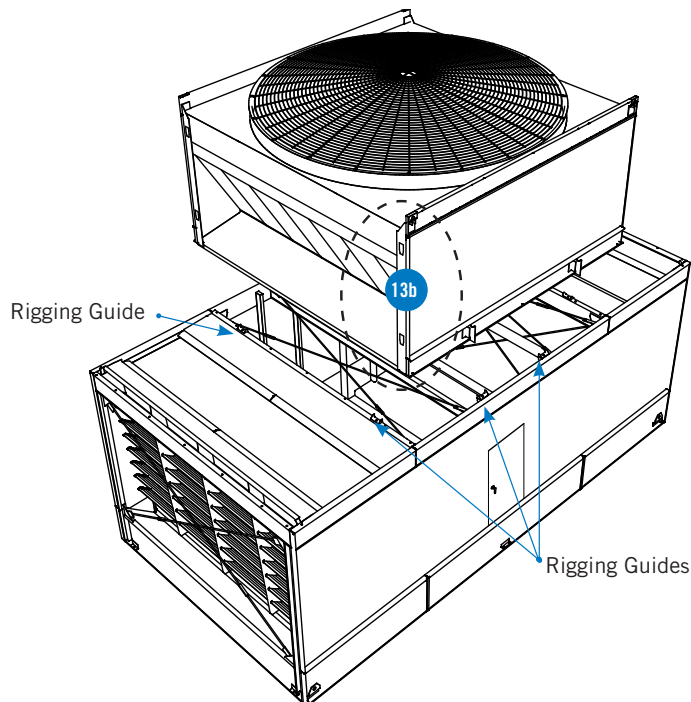

Figure 13a. Plenum Module Rigging
6. Lift and set the plenum module. Center the plenum module transversely and longitudinally. The rigging guides (Figure 13a) will engage when the plenum module is within 2" of the lower section. Bolt the plenum module in place at the four internal bracket locations. See Figure 5 on page 5 for typical bolting detail.